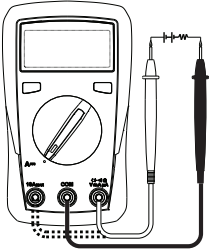

Figure 3
- DC Current Measurement** (see Figure 3)